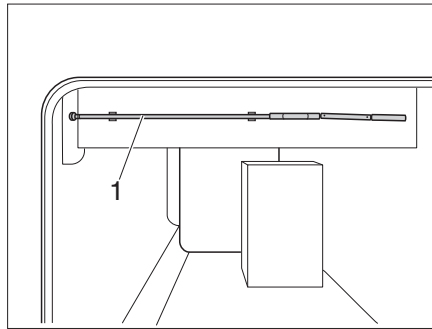

Fig. 143 Crank for height adjustment
- Remove the crank (Fig. 143,1) from the holder.